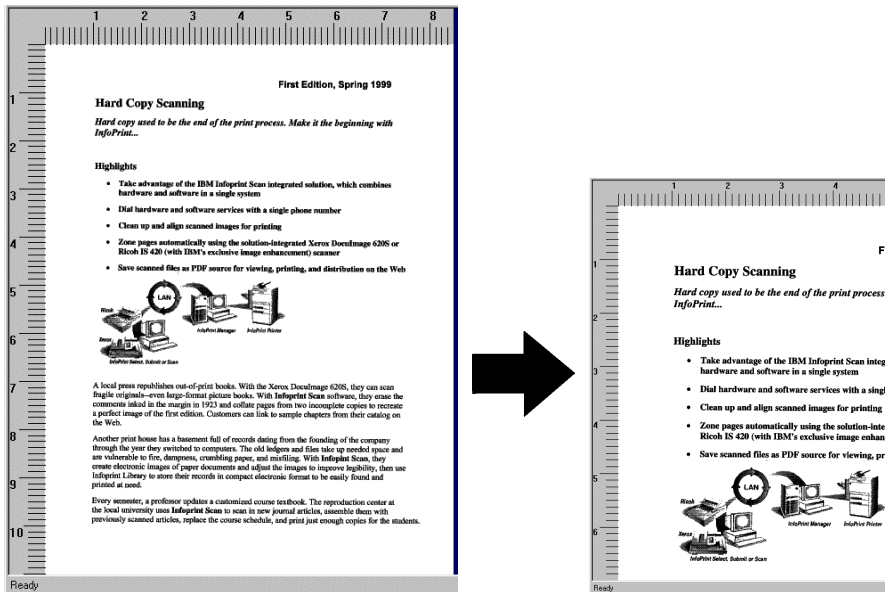

Figure 3. Resize the page to specified dimensions without changing the size of the image on the page.
- You can resize the page to specified dimensions without changing the size of the image on the page. (See Figure 3 on page 82.)
Note: Keep in mind that when the *Scale to fit finished page size* check box is **not** checked, only the page will be resized, not the image. Depending on the size and shape of the original image and of the resized finished page, parts of the image may be cut off, as shown in the example in Figure 3 on page 82.